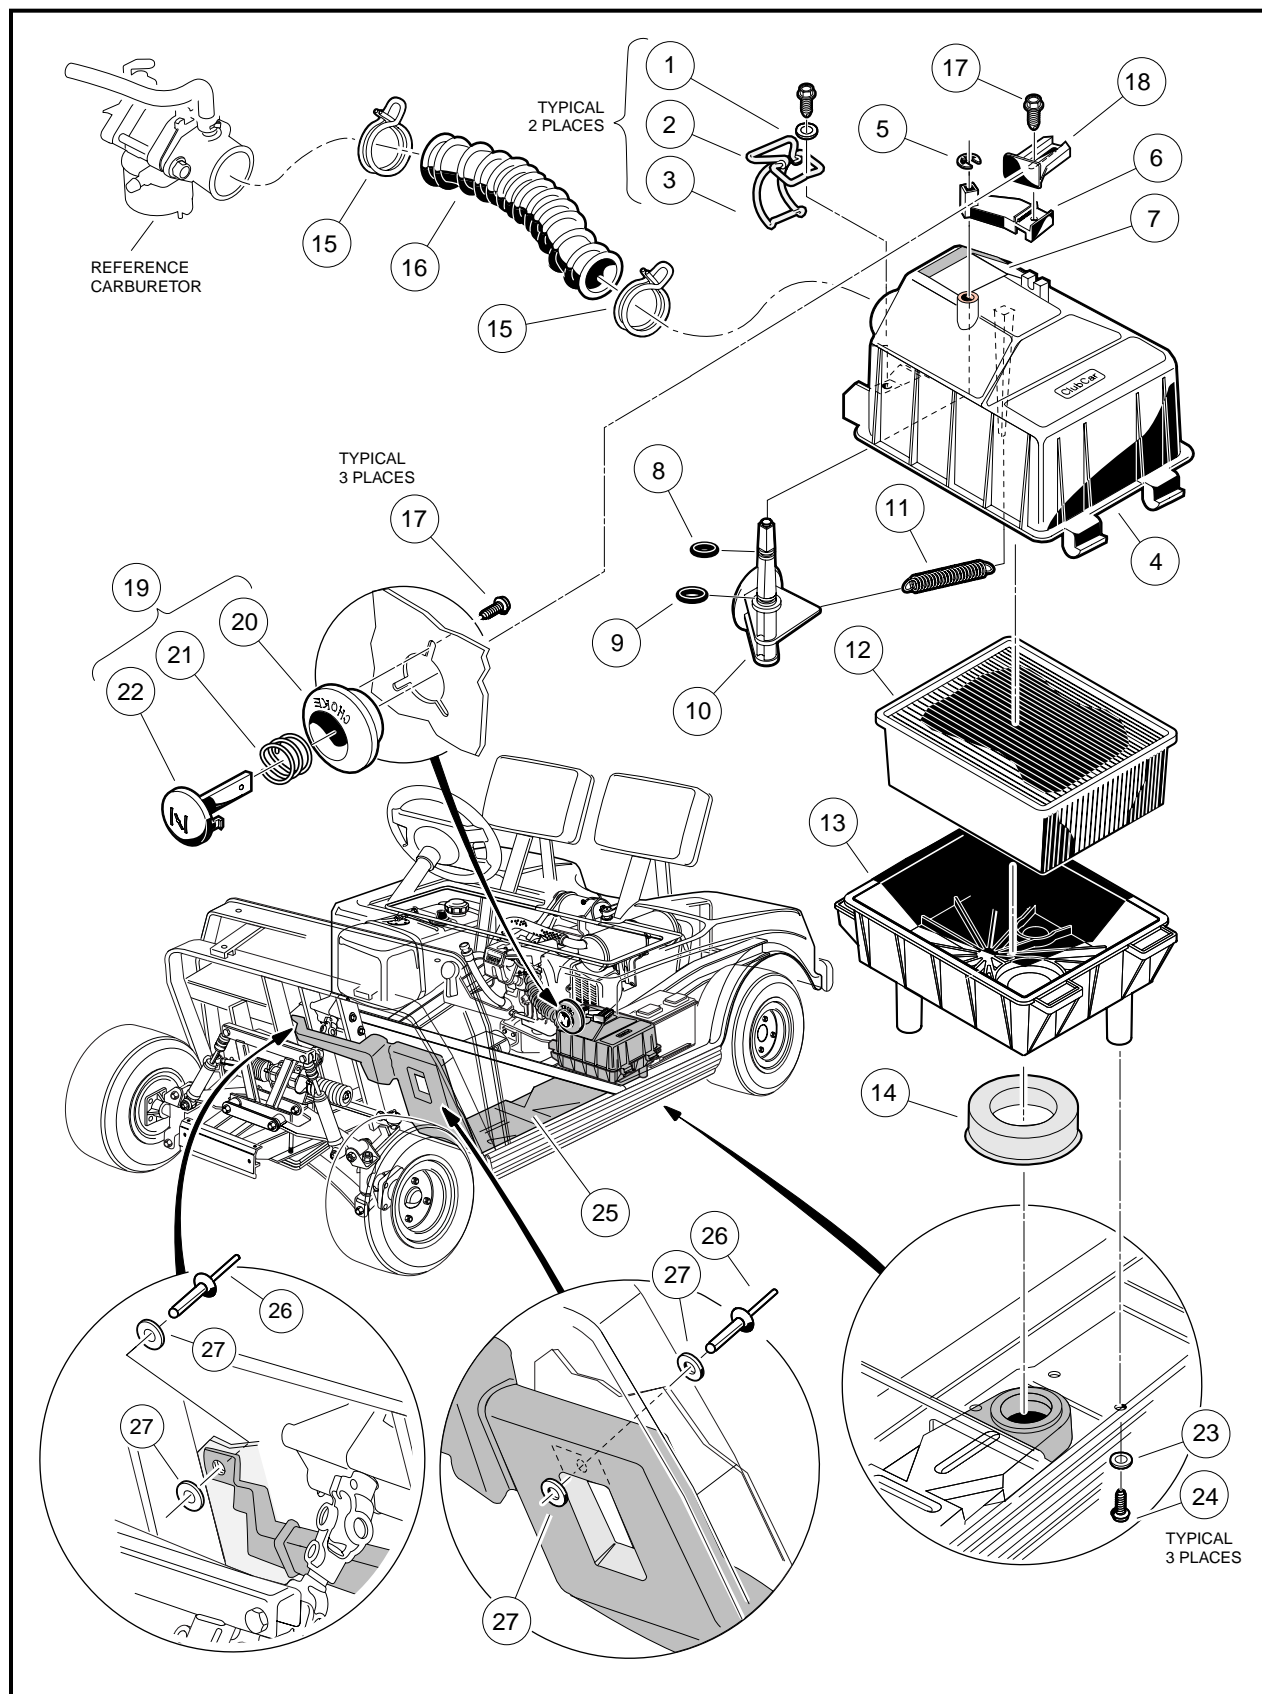

Figure 14-15 Air Intake and Choke Assemblies
1. Remove the mounting screws (17) from the back side of the choke. Remove the choke assembly from the vehicle body (**Figure 14-15, Page 14-17**).
1. Position the choke assembly (19) on the vehicle body. Install the mounting screws (12) from inside the vehicle body and tighten to 18 in-lb (2.0 N·m) **(Figure 14-15, Page 14-17)**.
2. Check for proper operation. If the choke button does not adequately engage the choke positioner (6), loosen the #12 screw (17) and adjust the choke positioner (18) on the choke lever (6) **(Figure 14-15, Page 14-17)**. Move the positioner toward the choke button to increase choke engagement and away from the choke button to reduce choke engagement.
2. Remove the air intake box from the vehicle by removing intake hose (16) and three screws (24) and washers (23) that mount the intake box to the vehicle **(Figure 14-15, Page 14-17)**.
1. Check to be sure the intake seal (14) is seated correctly **(Figure 14-15, Page 14-17)**. The seal fits tightly onto the bottom side of the air box. If seal is not in place, moisture will enter the air intake system.
2. Place the air box assembly into vehicle and install three flat washers (22) and screws (23) from underside of air box mounting plate into air box **(Figure 14-15, Page 14-17)**. Tighten to 33 in-lb (3.7 N·m).
4. Drill out the two pop rivets (26) securing the intake duct to the floorboard **(Figure 14-15, Page 14-17)**.
5. Remove three screws (23) and flat washers (22) from the bottom of the air box assembly.
2. Secure the front of the duct to the underside of the floorboard with two pop rivets (25) and flat washers (26) **(Figure 14-15, Page 14-17)**.
- 4.1. Position steering joint assembly (1) on vehicle as shown. Install three lock washers and three screws and tighten to 15 ft-lb (20.3 N·m) **(Figure 14-15, Page 14-17)**.
2. Lift two latches (3) on the side of the air box **(Figure 14-15, Page 14-17)**.
3. Remove the hose clamp (15) from the air hose and remove hose from the air box assembly.
4. Standing on driver side of vehicle, grasp air hose mounting inlet and open box fully. Remove filter element (12).